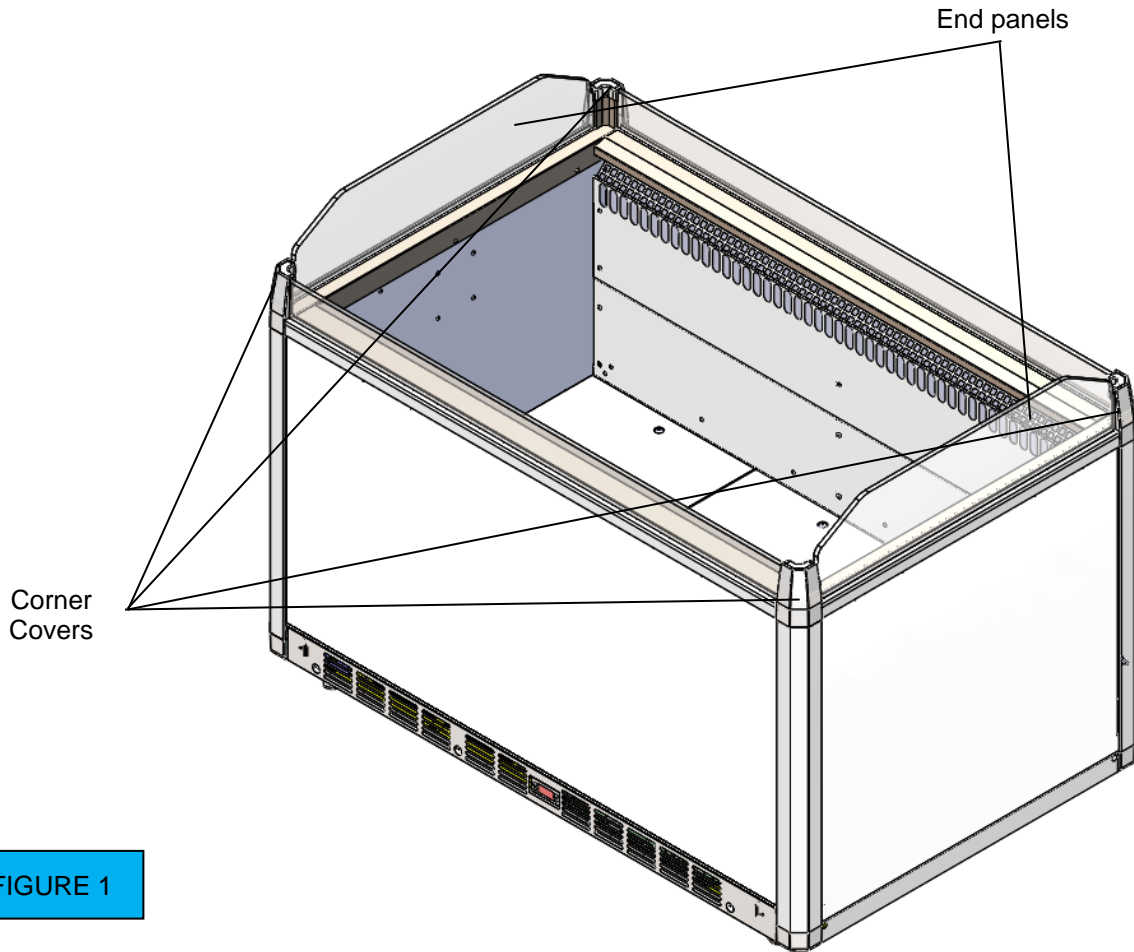

FIGURE 1
- Step #3** Remove Corner Covers from existing NIC unit (See Figure 1)
- Step #4** Remove the end panels from existing NIC unit (See Figure 1)